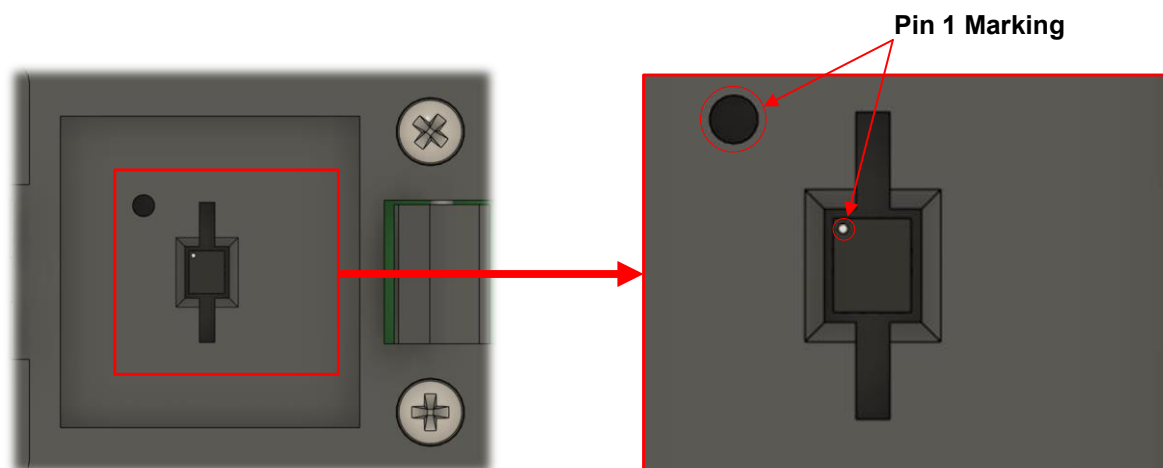

Figure 4. IC Positioning in Socket Adapter
2. Align the pin 1 indicator (dot mark) on the device with the corresponding mark on the SA (see Figure 4).